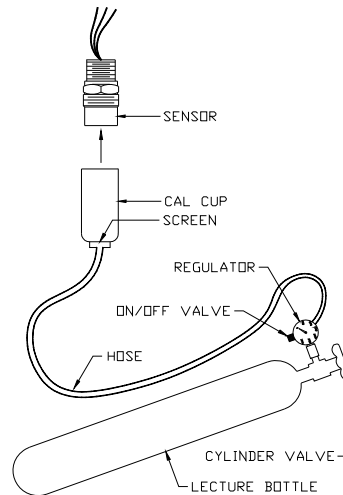

Figure 17: Portable Purge Calibrator
1. Place the cup from the portable purge calibrator over the sensor (Figure 17).